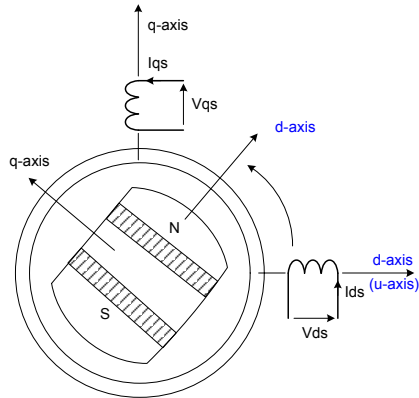
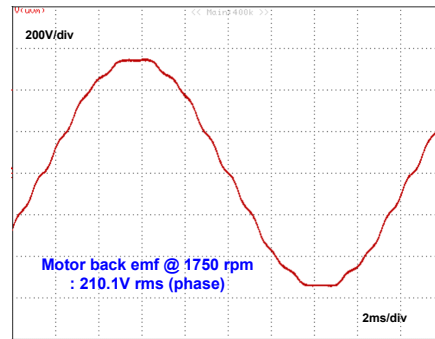

Figure 2. dq-axes model of a PM motor.
Figure 3. PM motor back-emf at 1750 rpm
Fig. 2 shows the definition of the motor dq-axes. The north pole of the rotor is defined as d-axis. The PM motor electrical circuit equations are given by (1)-(7) where all the AC quantities are transformed into DC quantities for the convenience of analysis, i.e. the synchronous reference frame is used. Fig. 3 shows PM motor back-emf voltage waveform. The equivalent circuits in Fig. 4 are useful to analyze the motor voltage and power factor according to the motor current and speed.